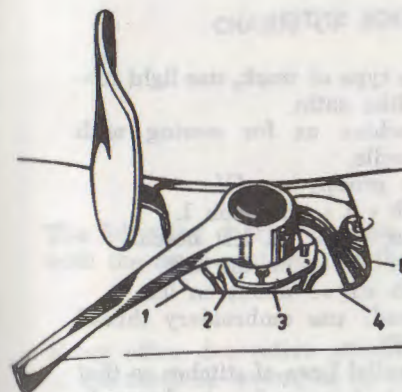

Fig. 68
- Insert cam-group into machine (Fig. 68).
- With needle in its highest position, bring handle in position 1 (handle completely on the left) Fig. 68.